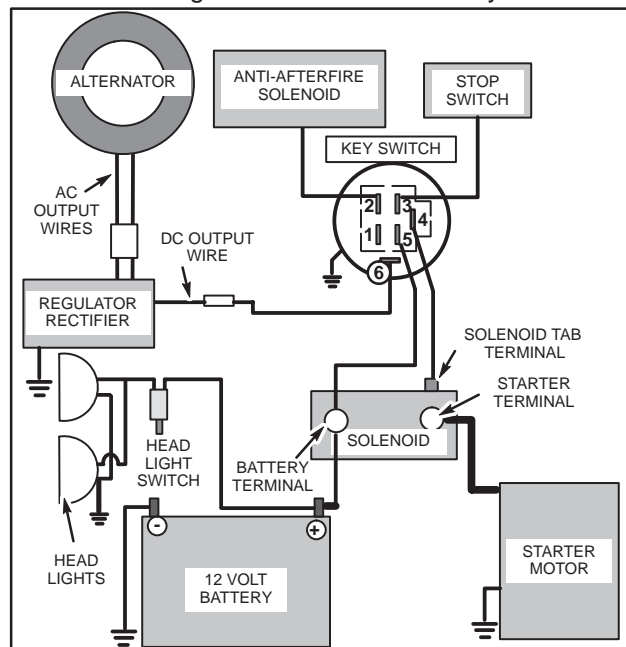

Fig. 34 – Typical 12 V Wiring Diagram
1. Before installing battery, connect all equipment to be operated. Fig. 34.